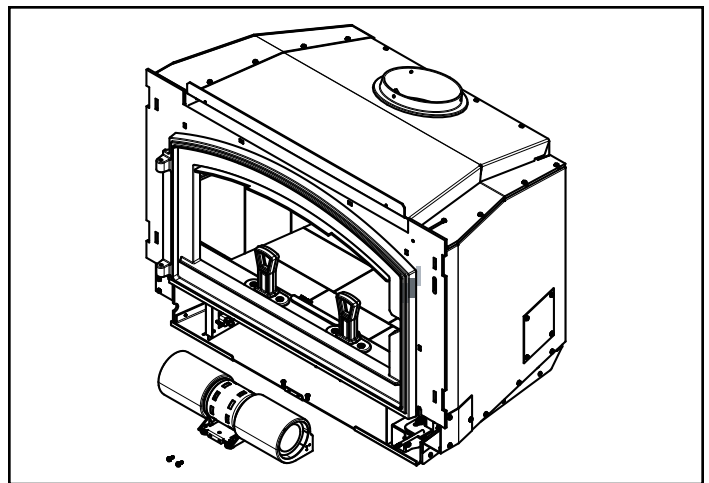

Figure 22.2
4. Disconnect the wires from the blower (**Figure 22.2**).